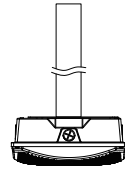

Figure 2
2. Screw the fixture to the 3/4"NPT Stem(Figure 2).